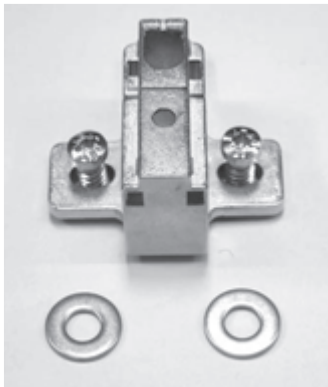

Fig. 1a
1. Add washers to four of the eight Hinge Plates (E). You will attach the Vertical Divider Hinges (G) to these Hinge Plates (E)/Washers (H) assemblies. See Figures 1a, 1b and 1c.